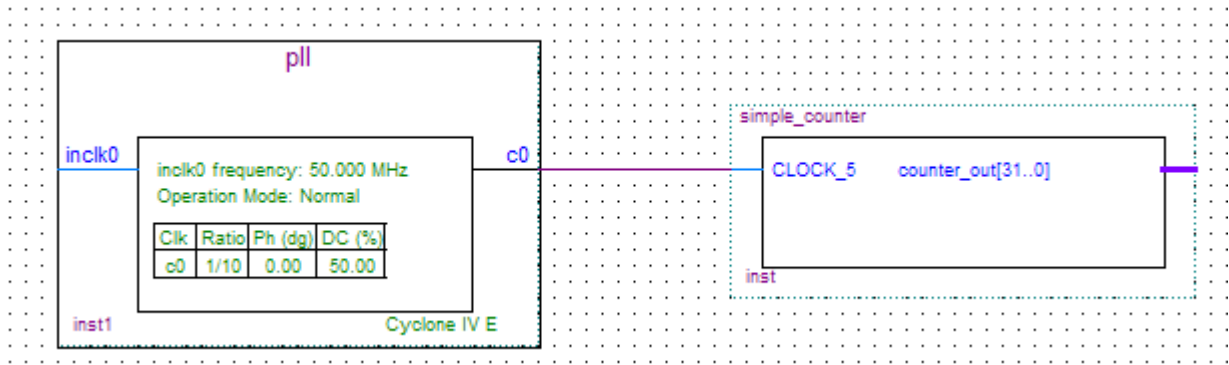

Figure 6-27 Draw a Bus Line connect pll c0 port to simple\_counter CLOCK\_5 port
13. Click and drag a bus line from the c0 output to the simple\_counter clock input. This action ties the pll output to the simple\_counter input (see **Figure 6-27**).